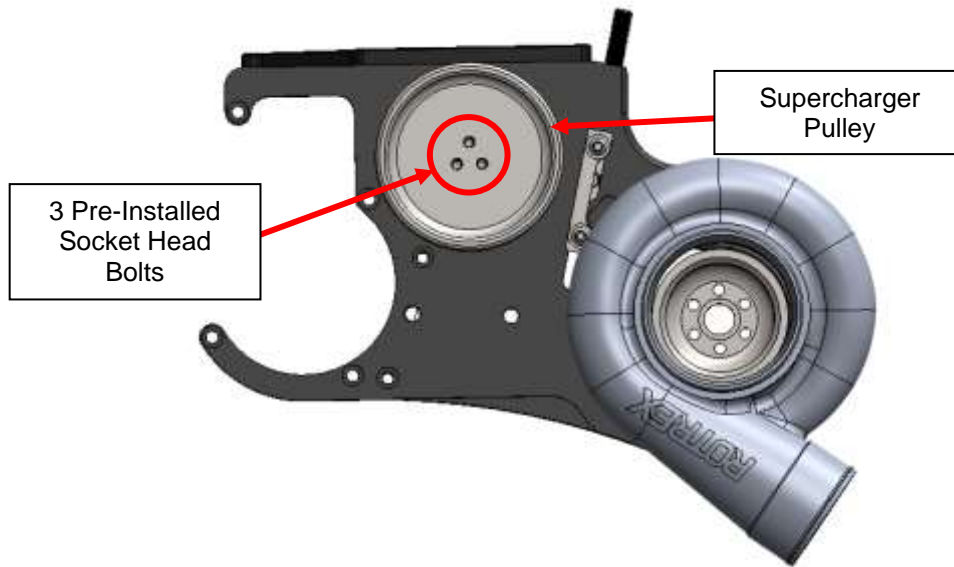

Figure 24
13. Remove the (3) three pre-installed Socket Head Bolts on the Main Bracket and install the Supercharger Pulley (#47) as shown below. **DO NOT** spin the blower. For added security, you can add just a drop of Loctite (#36) to each bolt, **DO NOT** add too much as it may leak out into the jackshaft bearing in the bracket. *Figure 24.*